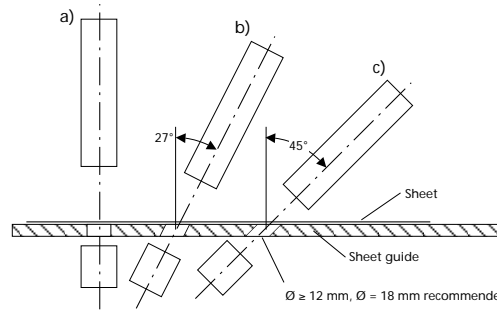

Fig. 5: Installation positions
- When working with papers and thin films, we recommend you install the dbk perpendicular to the sheet (see fig. 5 a).
- When working with thin sheet metals, thicker plastic films (e.g. credit cards), install the dbk with a deviation of 27° from the perpendicular (see fig. 5 b)).
- Types of paper that lead to false triggering when the dbk is mounted perpendicular (as a rule, types with air pockets) can frequently be scanned more accurately when the dbk is installed at an angle of 45° to the sheet. If the dbk is angled towards the corrugations of corrugated, the system can even be used to scan fine corrugateds (G and F; see fig. 5 c).